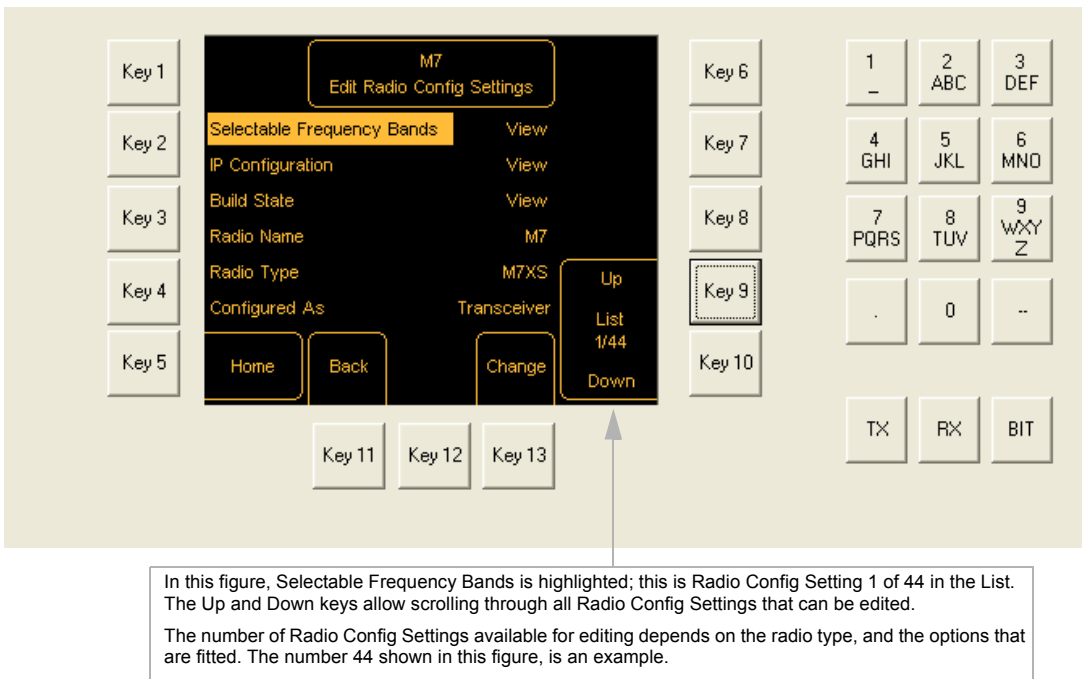

Fig 3-25 Edit Radio Configuration Settings Screen
- (2) Ensure the Edit Radio Config Settings screen (Fig 3-25) is displayed.